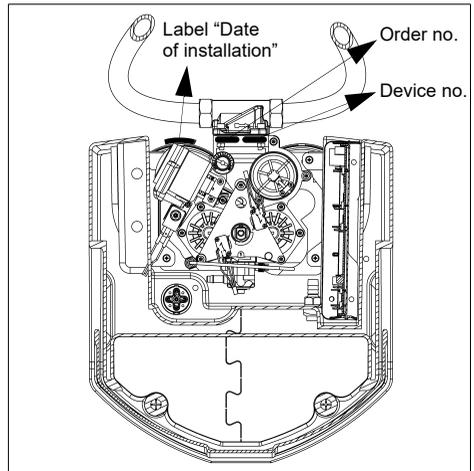

Fig. 8: Device and order no. plus label "Date of installation"
- Enter the date of installation on the label. The label is located on the rear side of the resin bottle (see fig. 8).